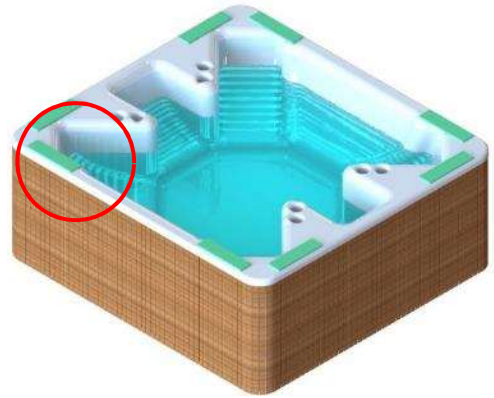

Figure 49
- 1) Attach the installation foam to the top of the hot tub near each corner using the masking tape provided in the part box. There must be at least two foam spacers per side. Do not stack two pieces of foam one on top of the other. (Figure 49)